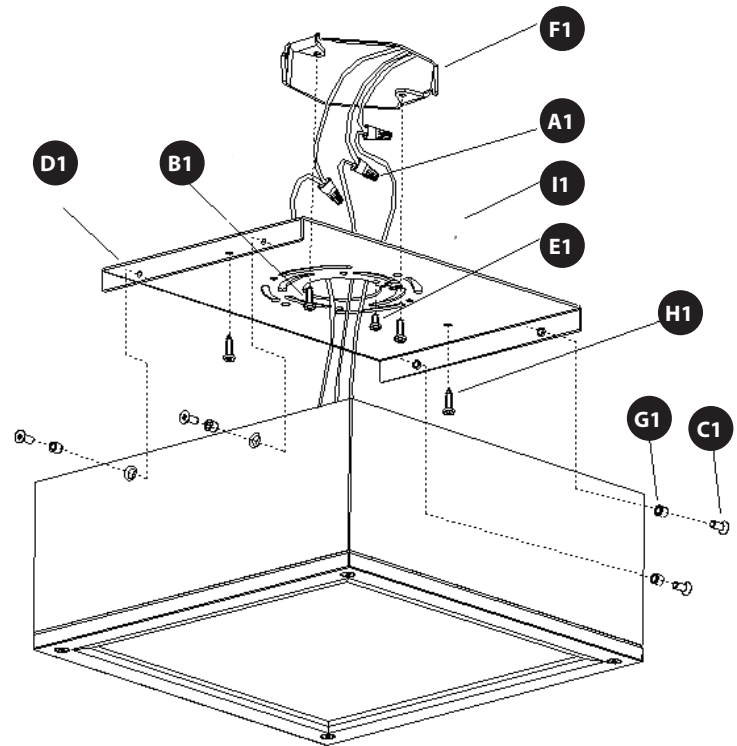

FIG.2
### CONNECTING THE WIRES (Fig. 2)
6. Connect the electrical wires as shown in Fig. 2, making sure that all wire connectors (A1) are secured. If your outlet box has a green or bare copper ground wire, connect the fixture's ground wire to it. Otherwise, connect the fixture's ground wire directly to the backplate (D1) using the green screw (E1) provided. After wires are connected, tuck them carefully inside the junction box.